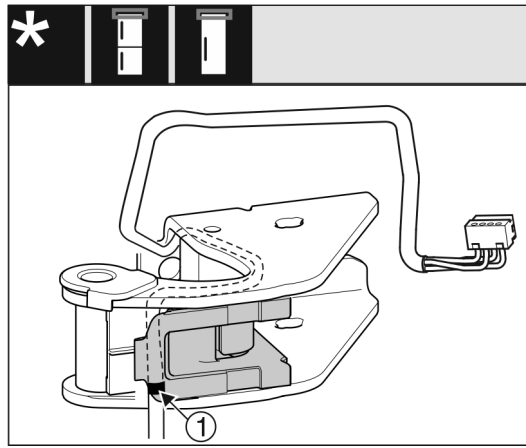

Fig. 30
- ▶ Place the middle marking Fig. 30 (1) on the edge of the cable holder.